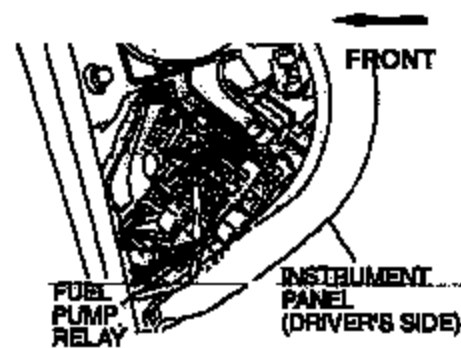

Figure 1
2. Remove the fuel pump relay from the fuse panel (Figure 1).
4. Install the fuel pump relay (Figure 1).